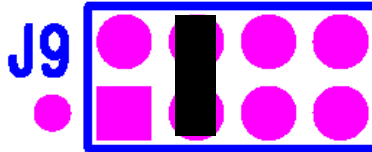

Figure 2: Output Voltage selection jumpers
STEP 4: Select the output voltage setting jumper. Figure 2 shows what output voltages are achieved by selecting each jumper position. Populating multiple jumper positions will allow you to select higher output voltages. You can populate up to all four jumper positions for the highest V_{OUT} of approximately 3.73V with the resistors populated on the board.